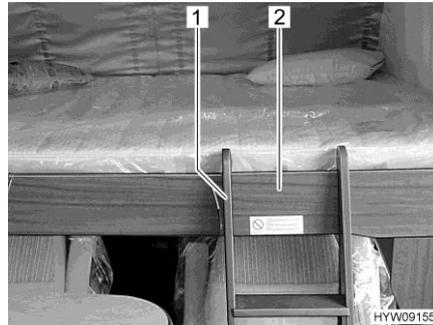

Fig. 99 Access ladder (pull-down bed)
- Hook the access ladder (Fig. 99,1) to the pull-down bed by attaching the two hooks in the bed surround (Fig. 99,2). When engaging make sure that the hooks rest on the inner fixtures. This prevents lateral movement of the access ladder.
- Unhook the access ladder (Fig. 99,1) from the bed surround (Fig. 99,2) on the pull-down bed.